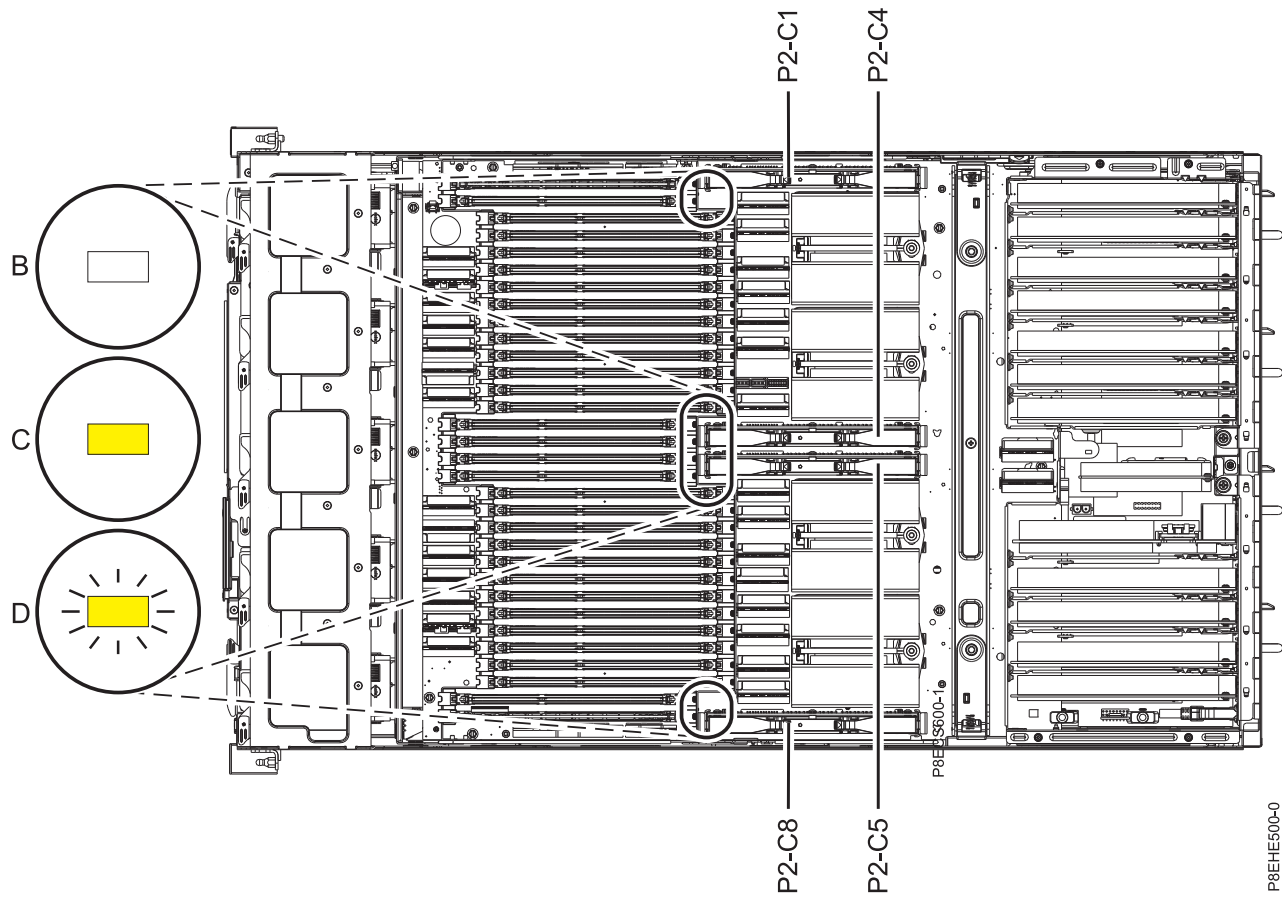

Figure 11. Location of the processor voltage regulator modules and LEDs in the 8408-44E or 8408-E8E system
3. Locate the processor voltage regulator module LED. Figure 11 on page 21 shows the location of the processor voltage regulator modules and LEDs.